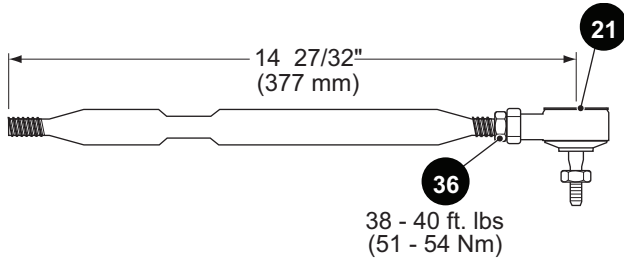

Figure 7 Rack Ball Joint Installation
2. Remove the three epoxy patch bolts (6) and washers (7) that secure the steering column (5) to the steering housing (13) (Ref Fig. 7).
3. Remove the column and gasket (8) from the steering housing.
4. Remove the bolts (9) and nuts (10) from the coupling (11) and remove shaft (12) from the steering assembly.
5. Replace steering shaft in reverse order of removal. Gasket (8) should be replaced with a new gasket.
6. Bolts (9) should be tightened to a light drag between shaft (12) and coupling (11). **Do not over tighten.**
7. Bolts (6) must be replaced with new bolts. Tighten bolts to the specified torque.
Except for major damage to the steering assembly housing, there is no need to remove the housing (13) from the vehicle. The only components requiring replacement due to wear that would require removing the housing from the vehicle would be the replacement of the bearing (14) and bushing (15). (Ref Fig. 7) The bearing and bushing must be pressed out.
2. Remove the steering wheel (3).
3. Remove the steering shaft (12) as instructed above.
4. Loosen the two nuts (16) until ball joint (17) end threads are protected.
5. Using a ball joint separator as a lever, apply pressure to ball joint and tap nut with plastic faced hammer to release ball joint from idler arm (18).
7. Remove the two epoxy patch bolts (19) and longer bolt (44) securing the steering housing to the frame mount.
10. Bolts (19) must be replaced with new bolts. Tighten mounting bolts to the specified torque.
- To remove the idler arm (18) from the steering housing assembly (13), remove the steering housing assembly from the vehicle (as described above) (Ref Fig. 7).
- Remove the cotter pin and nut (20) attaching the steering rack ball joint (21) to the upper idler arm, remove the lock nut (22) and the two washers (23, 24) from the idler and remove the idler arm from the steering housing.
- Tighten nut (22) to the specified torque. Insert a new cotter pin (25).
- Tighten nut (20) to the minimum specified torque, if a cotter pin (25) can not be inserted then continue to tighten until a slot in the nut (20) aligns with the hole and a cotter pin is installed, DO NOT tighten past the maximum specified torque.
- Lubricate through grease fitting (42).
In general, there is no need to remove the rack tensioner (26) unless the rack bellows (27) and or the rack cover (28) have been torn or damaged and there is reason to believe that water or dirt has entered the housing. (Ref Fig. 7) The tensioner can be greased through a right angle grease fitting (29) located on the steering housing directly behind the front shield. The tensioner does need to be removed in order to replace the rack (30).
- To remove the tensioner, remove the bolts (31), the cover plate (32) and gasket (33) that secures the rack tensioner in the steering housing. Remove the spring (34) and tensioner.
- Replace rack tensioner in the reverse order of removal, replacing gasket (33) with a new one.
- Tighten bolts (31) to the specified torque.
- Lubricate through grease fitting (29).
- The rack can be removed by loosening the tensioner bolts (31), removing cotter pin and backing off nut (20) on rack ball joint (21) until end threads of ball joint are protected (Ref Fig. 7).
- Remove the large clamp (35) that secures rack bellows (27) to the steering housing. The rack and the bellows may now be pulled from housing.
For replacement of the rack ball joint, the rack must be removed from the steering assembly in order to properly adjust the rack/ball joint length. (See above for rack removal). The rack end ball joint (21) can be removed from the steering rack (30); once the rack is removed from the steering housing by loosening the jam nut (36) and removing the ball joint (21) from the rack (Ref Fig. 7).
- Remove the pinion retainer (37) from the steering housing.
- Pull the pinion (38) and bearing (39) as an assembly from the housing (Ref Fig. 7).
- The steering pinion bearing (39) can be removed from the pinion gear (38) by removing the external snap ring (40) and pressing the bearing from the pinion shaft.
- The steering pinion gear bushing (41) is designed to last the life of the vehicle. In the unlikely event that it should require replacement, a machine shop must remove the bushing without damage to the bore. A new pinion bushing can then be inserted. The rack and steering pinion must be replaced as a set.